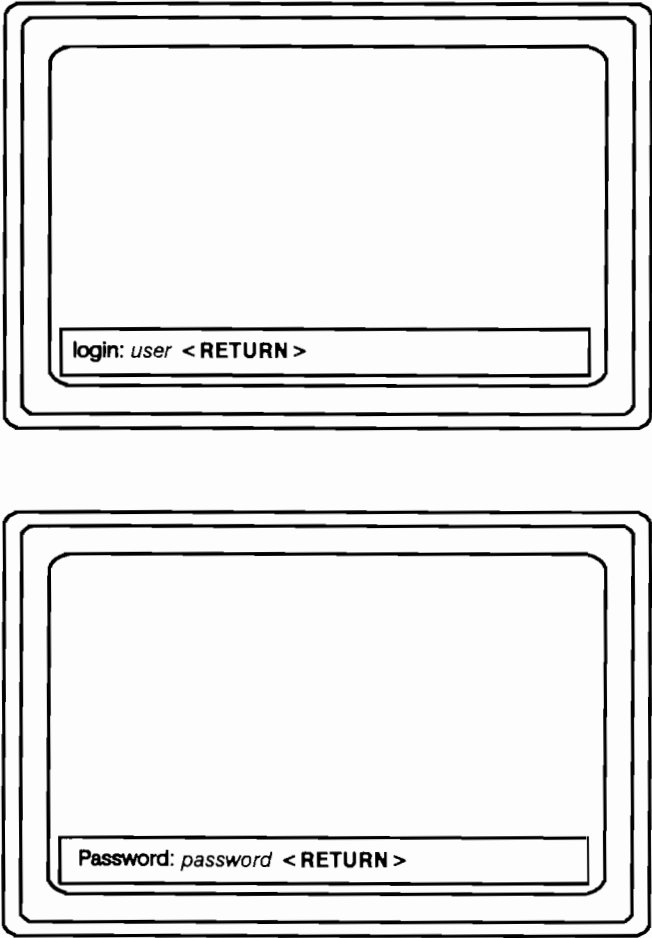

Figure 10-21. Logging In
9. Log in (type your username) as shown in Figure 10-21. If you don't have a username account yet, you may log in as **user**. If you log in as **user**, press **<RETURN>** at the "Password:" prompt.